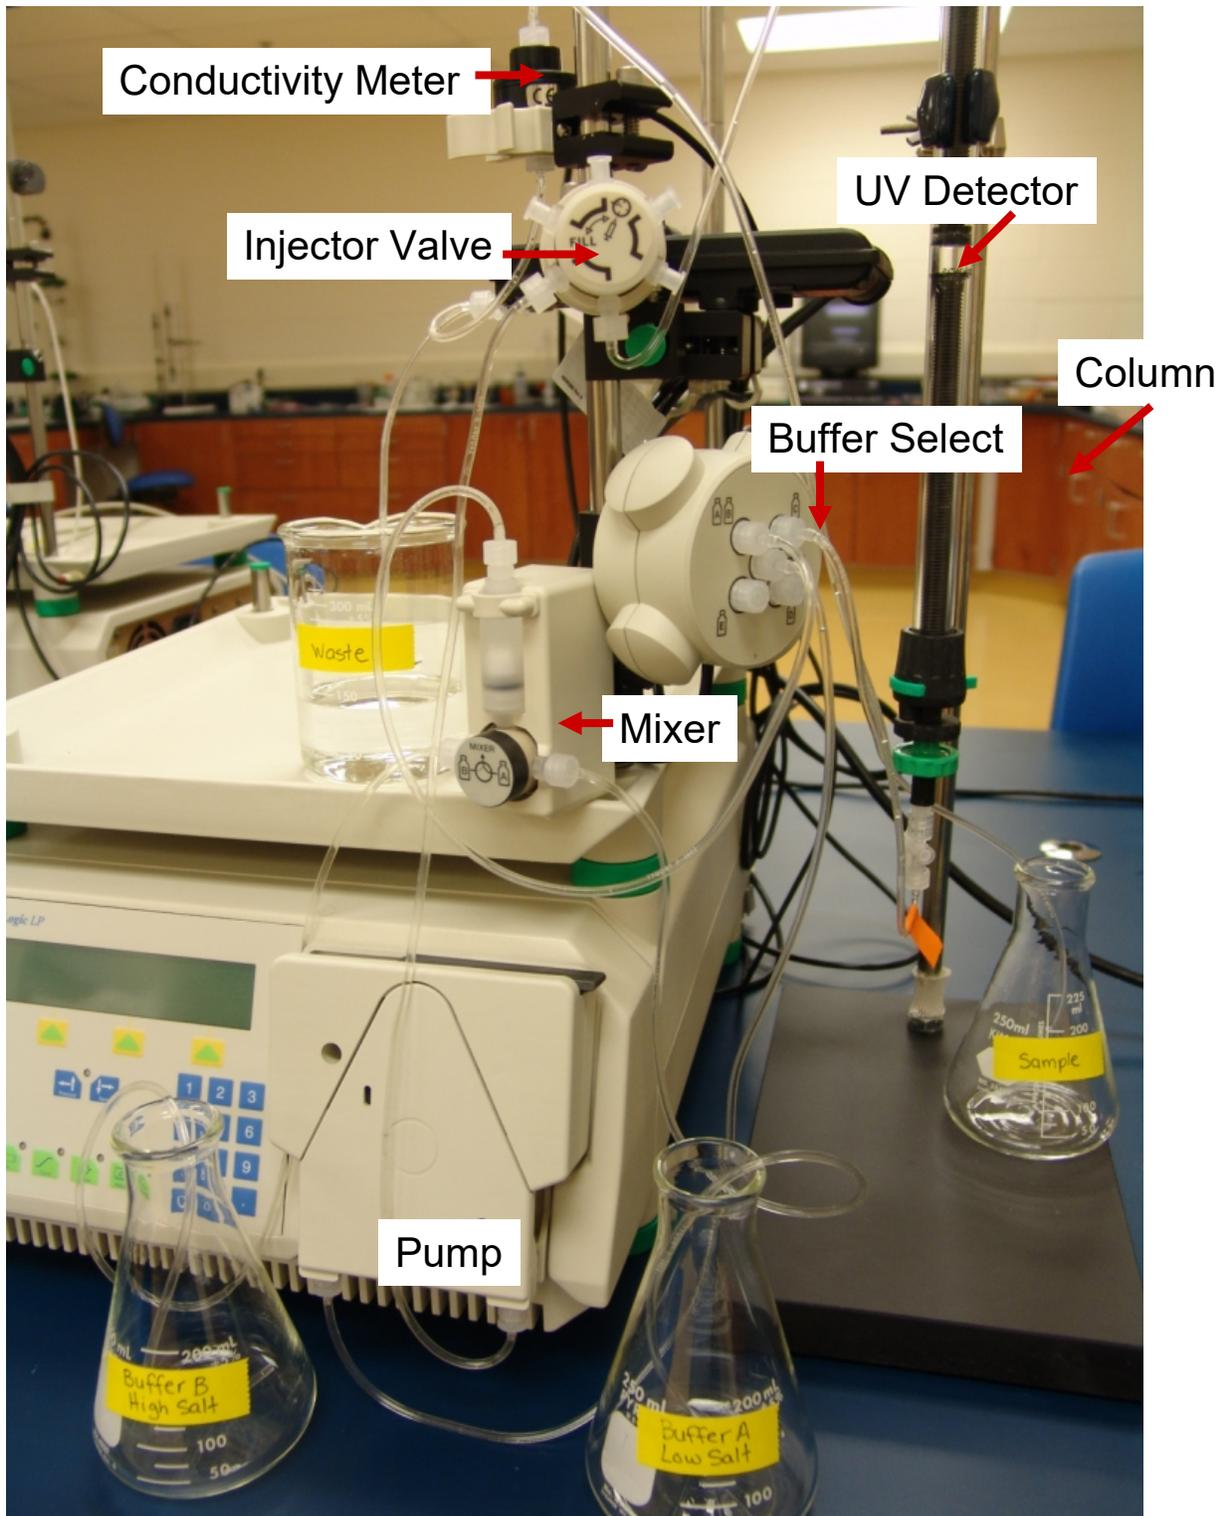

Figure 3: Photograph of the system with parts labeled
- 9.3. Figure 3: Photograph of the system with parts labeled